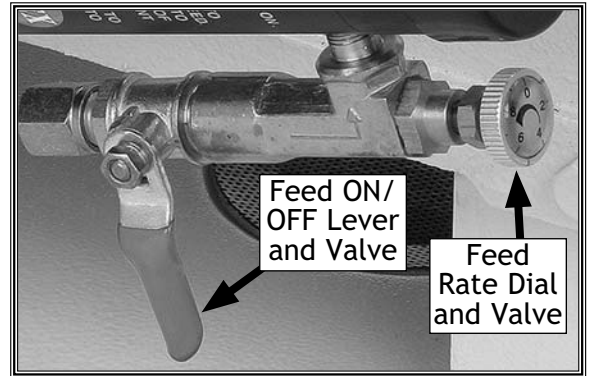

Figure 38. Feed rate controls.
4. Close the feed ON/OFF valve to lock the headstock and blade a few inches above the workpiece (see **Figure 38**).